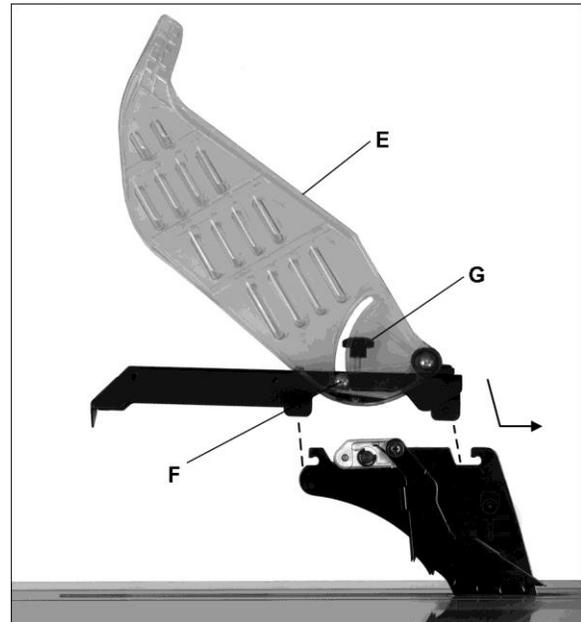

Figure 5-12
See Figure 5-12.
1. Push up guard leaves (E, Figure 5-12) until they catch and hold on the peg (F).
3. Tighten knob (G).
4. Pull down guard leaves (E) and allow them to drop to the table.
**IMPORTANT:** Knob (G) must be tightened before operating saw with guard in place.